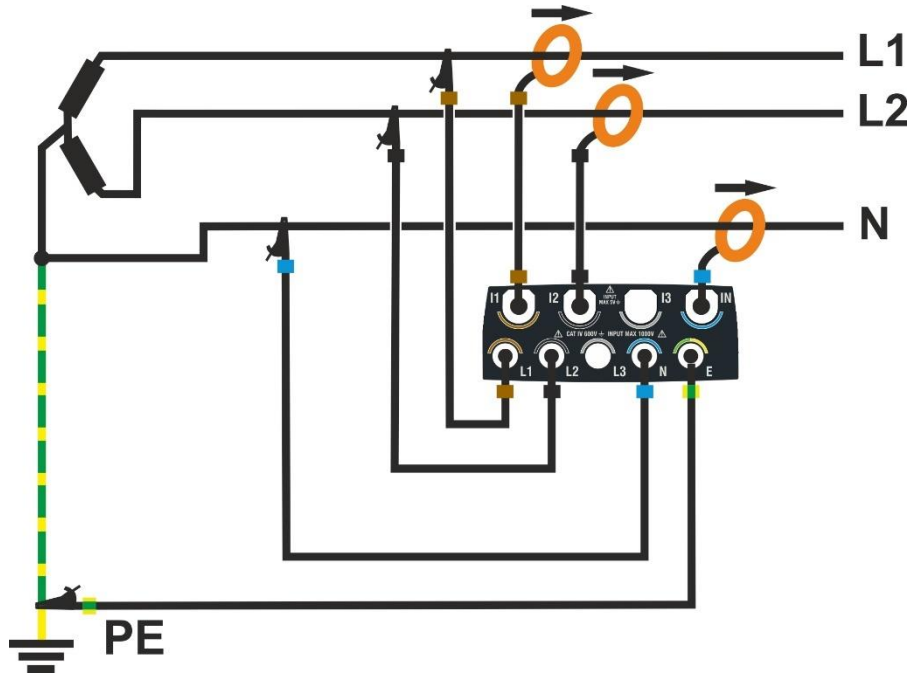

Fig. 69: Connecting the instrument to a Three-Phase 3 Wires system 3P 2E
2. Connect the voltage cables to the L1, L2, N and PE conductors as shown in Fig. 69